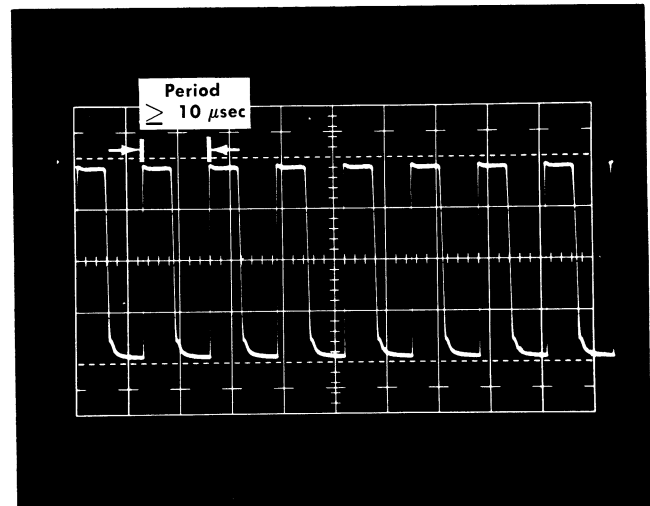

Fig. 5-10. Typical free run trigger holdoff waveform at pin connector "T", at all sweep rates except 0.2 through 100 μsec.
- e. **Check** for a holdoff waveform with a minimum holdoff period of 10 μsec on these sweep rates. A typical holdoff waveform is shown in Fig. 5-10.